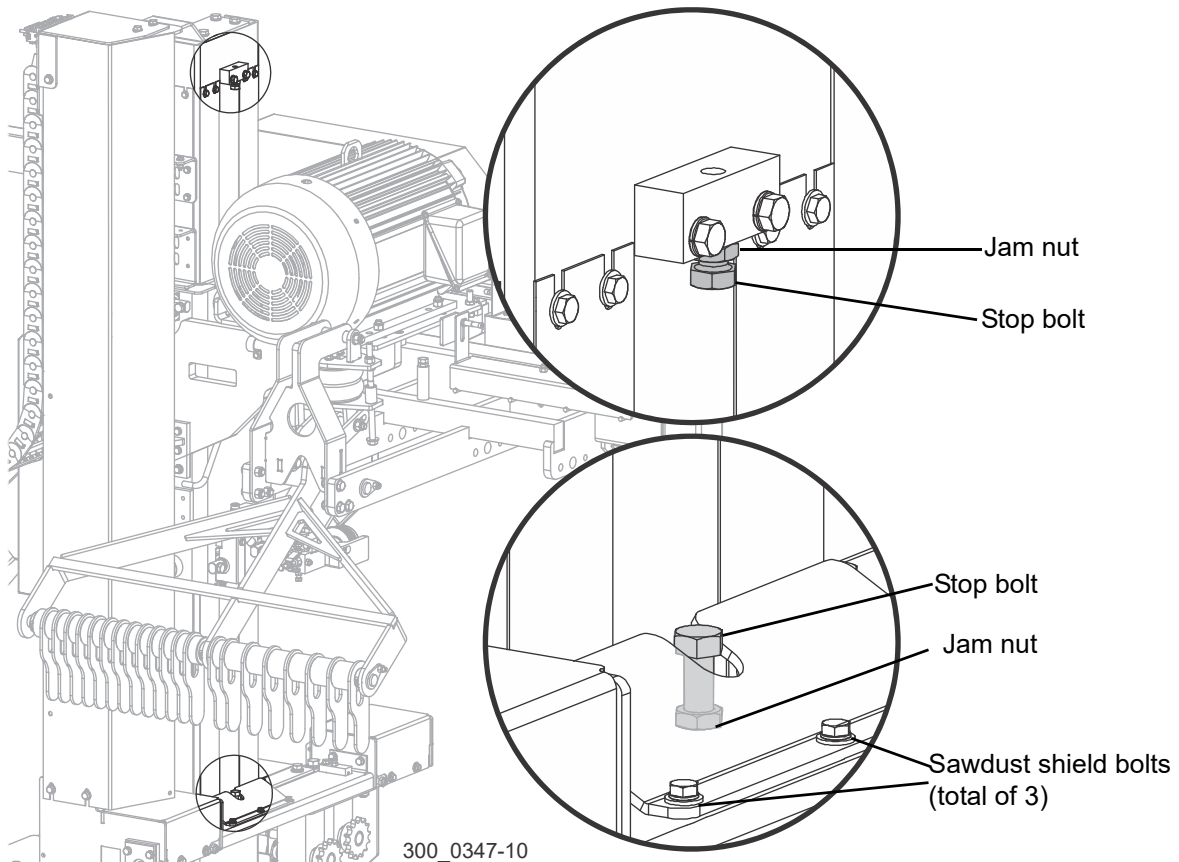

FIG. 4-31
1. Remove the sawdust shield at the base of the mast. (See Figure 4-31.)
See Figure 4-31.